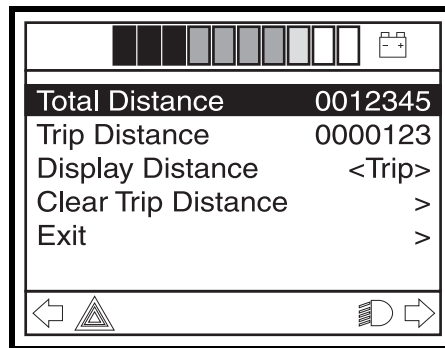

Figure 3. Menu Screens
3. Push the joystick up or down to select the Distance option, then push the joystick right or left to display the distance settings. **See figure 3.**